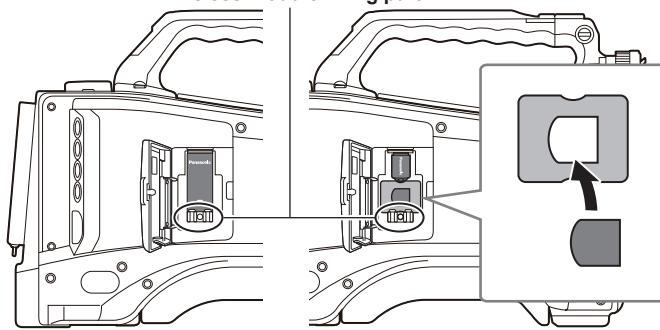

Fig. 4
**4** (AJ-WM50 only) Place the module holder under the wireless module. (Fig. 4)
**5** Fix the wireless module fixing part removed in Step 2 with a screw. (Fig. 4)